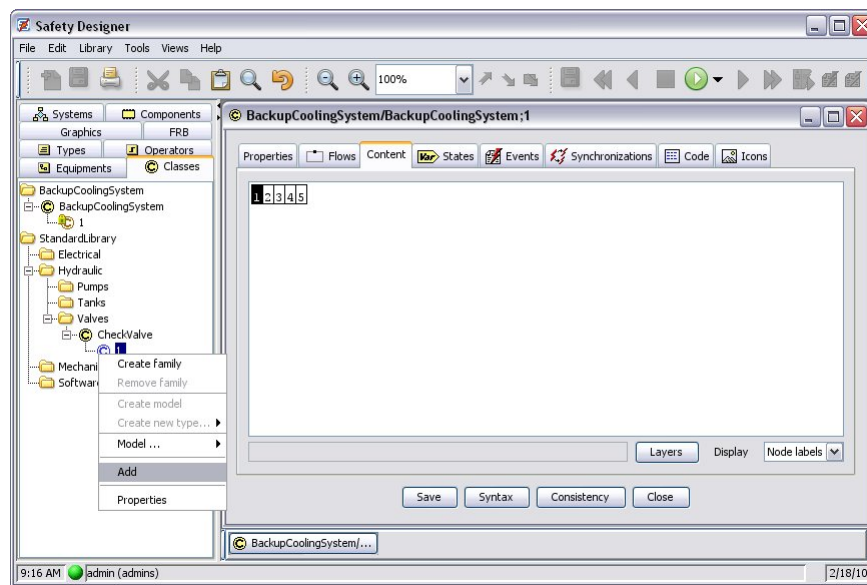

Figure 29: Instantiating through the "Add" menu item
- right-click on the selected element and click “Add” (Figure 29: Instantiating through the "Add" menu item)